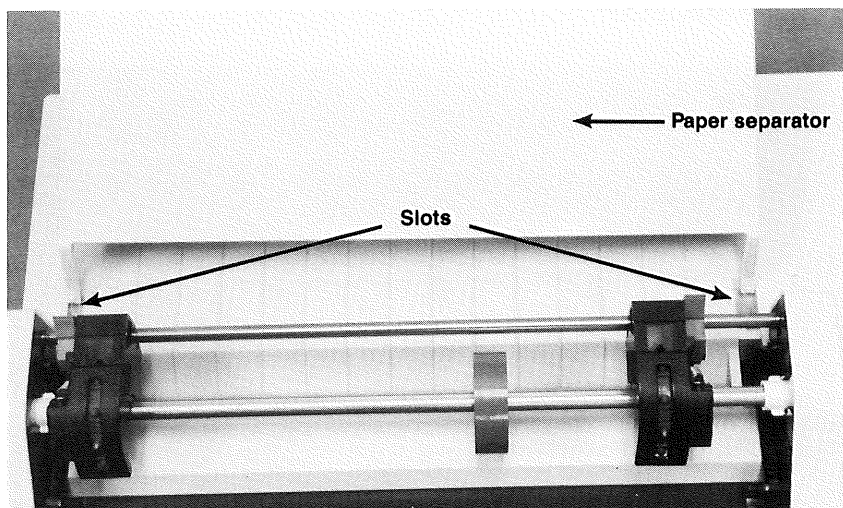

Figure 12.
19. Hold the paper separator at an angle and insert it into the slots in the printer, located behind the tractor drive. See Figure 12.